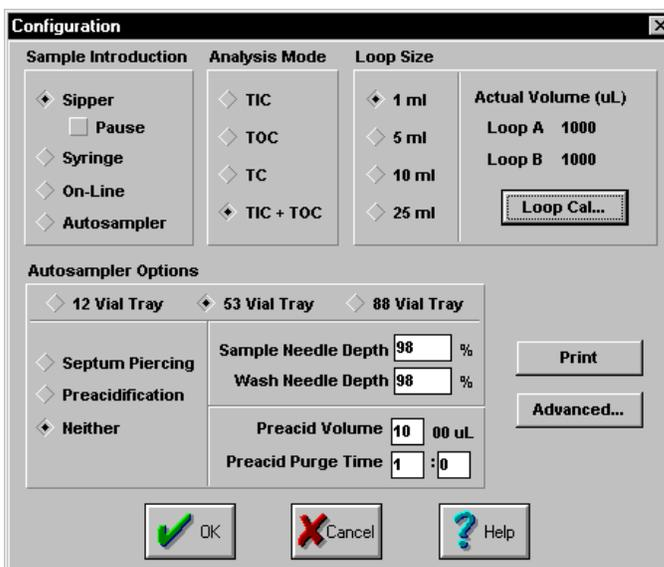

Figure 4.3. Configuration screen
1. Go to the **Setup** menu and select **Configuration**. This will access the Configuration screen (Figure 4.3.).